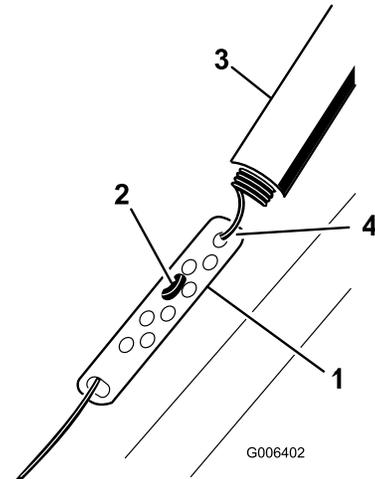

Figure 20
1. Slide up the spring cover and unhook the spring from the adjuster link (Figure 20).